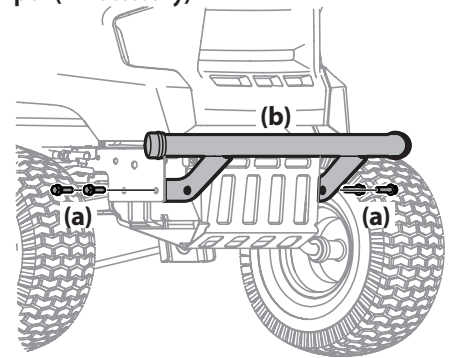

Figure 10
2. Position the bumper brackets to the *inside* of the tractor's frame and secure it in place with the four hex screws (a). Torque to 332–405 in.-lbs (37.5–45.75 N-m). See Figure 10.